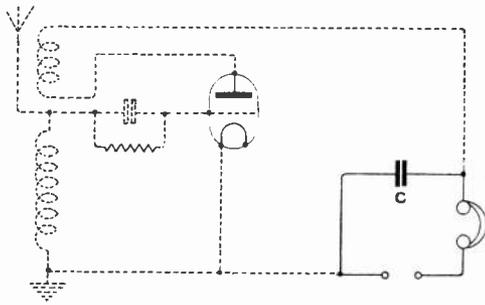

Fig. 2.
(2) Switch on H.T. (with L.T. off). A good loud click should be heard in the telephones, as a result of a charge passing into the by-pass condenser C. No click indicates a dis. in the circuit shown with a full line in Fig. 2. A likely spot is the by-pass